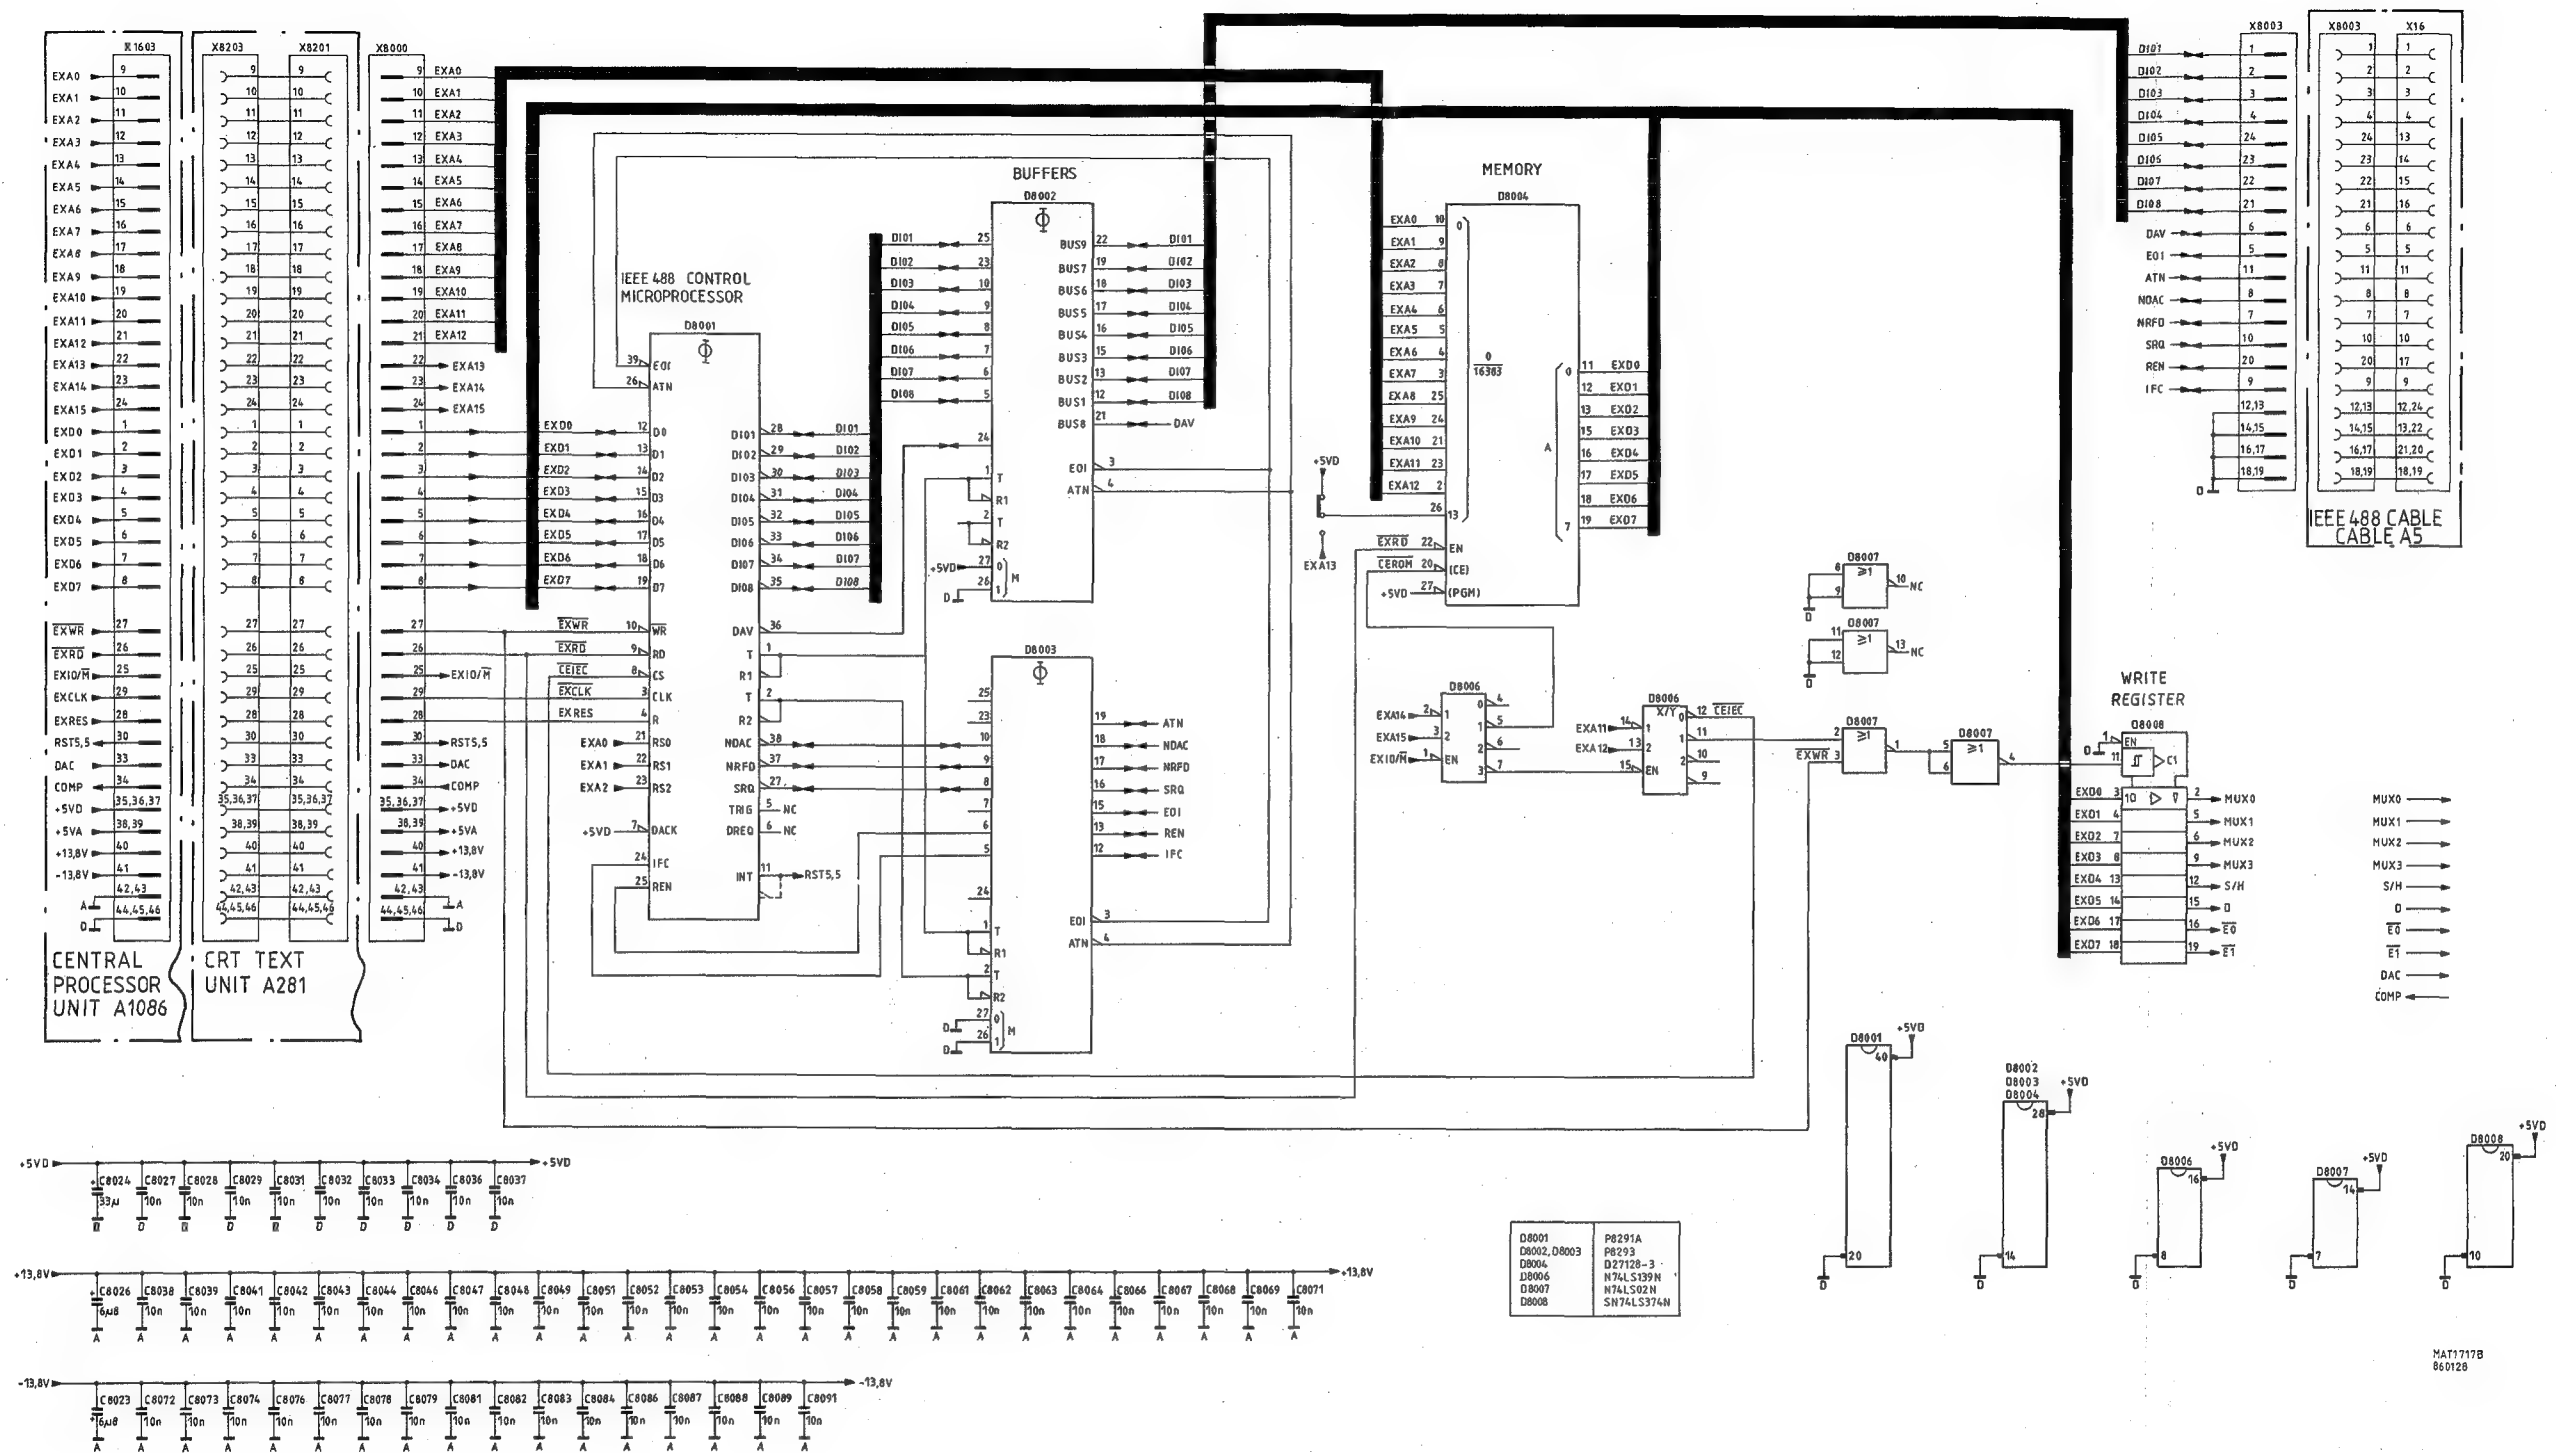

Fig.9.2. IEEE 488 bus unit, circuit diagram 1 (digital part)
9.1. CIRCUIT DESCRIPTION OF DIAGRAM 1 (See fig.9.2.)